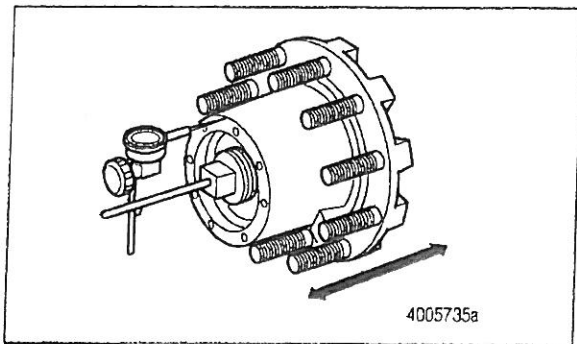

Figure 6
3. Attach the magnetic base of the dial indicator to the spindle. Touch the dial indicator stem to the hubcap mounting surface. Figure 6.